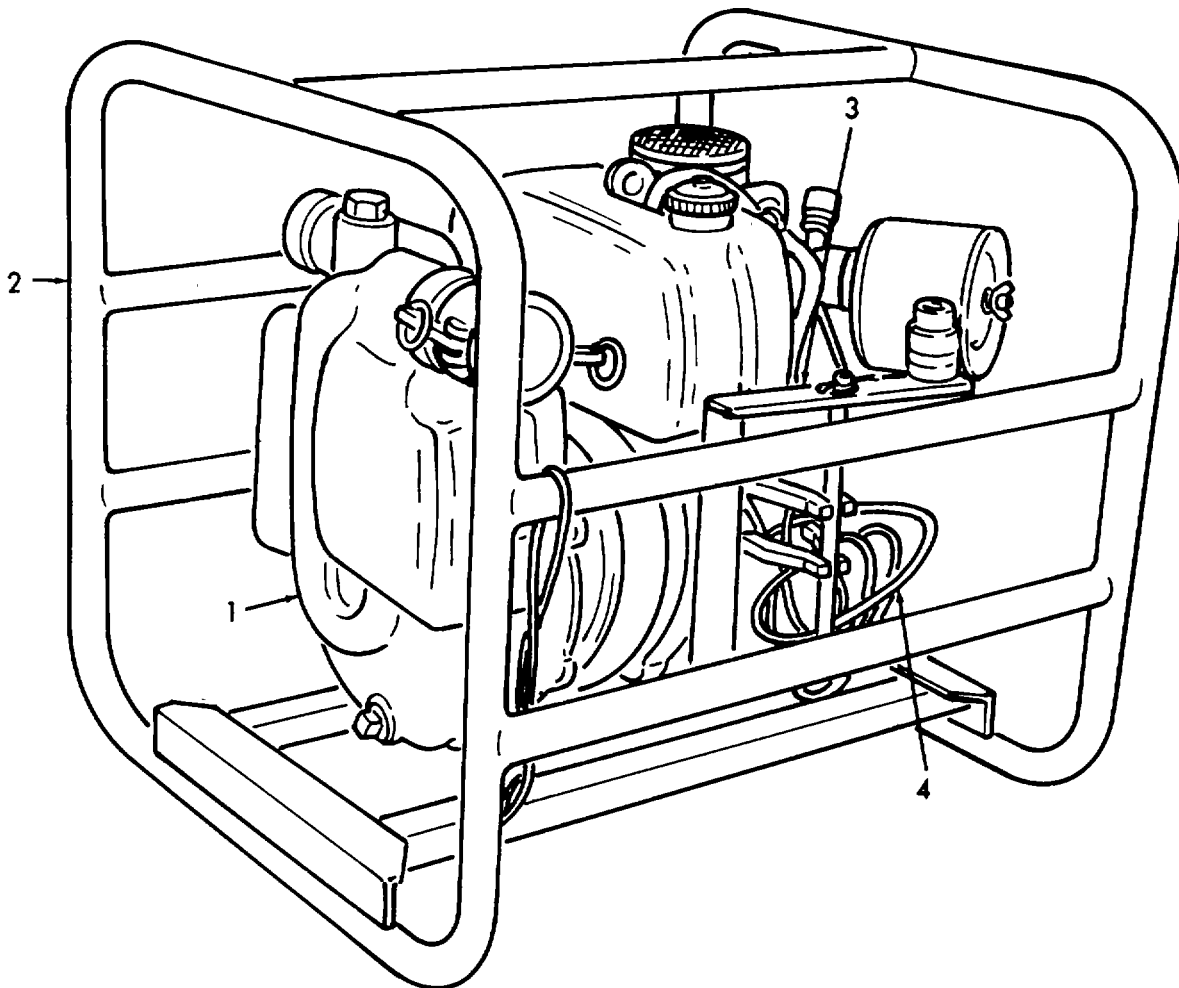

Figure 1-2. Pumping Assembly, Rear and Left Side.
a. Rear and Left Side. (Refer to figure 1-2).
- (1) Pump. The pump is engine driven and pumps fuel from a container to aircraft.
- (2) Frame Assembly. The frame assembly is used to support and transport the pumping assembly.
- (3) Crank Assembly. The crank assembly is used in starting the engine.
- (4) Ground Cable. The ground cable is used to ground the pump assembly during operation.